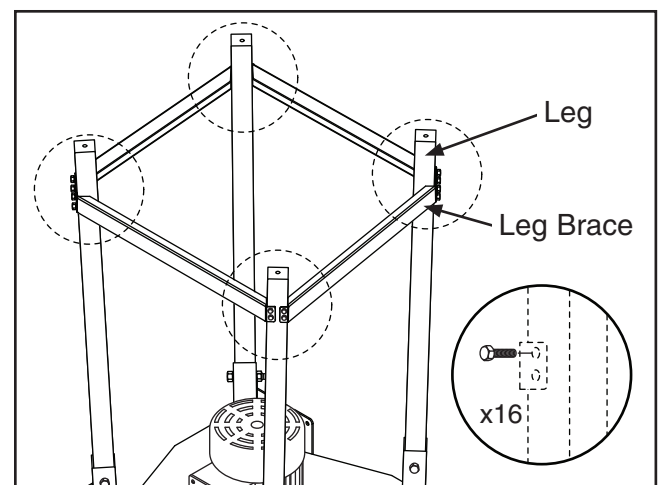

Figure 14. Attaching leg braces.
3. Attach the four leg braces to the legs with the (16) $\frac{5}{16}$ "-18 x $\frac{1}{2}$ " hex bolts, as shown in **Figure 14**. Fully tighten the bolts and the hardware from **Step 2**.